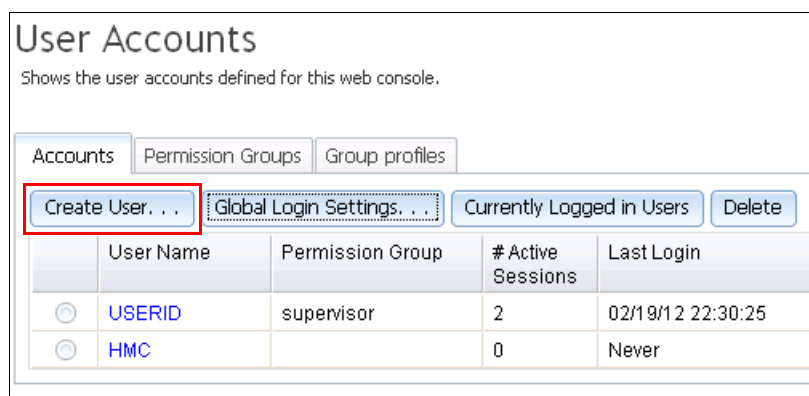

Figure 2-12 User Accounts window
5. From the CMM, click **Mgt Module Management** → **User Accounts**. The User Accounts window opens, as shown in Figure 2-12.
6. Click **Create User** (see Figure 2-12) and re-create the same user IDs and passwords that are used with the source AMM.